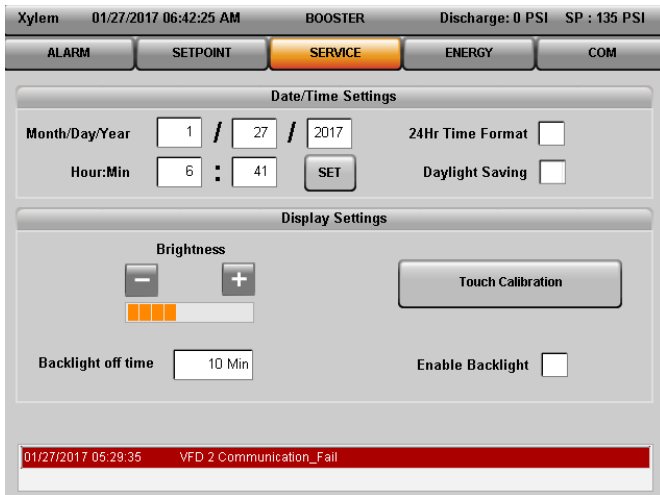

Figure 5.5.28 – Date/Time Setup page
- Month/Day/Year** – Enter the current **Month, Day and Year** in their respective input space as shown in Figure 5.5.28.
- Hour:Min** – Enter the hours using the 24 hour format and Minutes from 0 to 60 in their respective input space as shown in Figure 5.5.28.